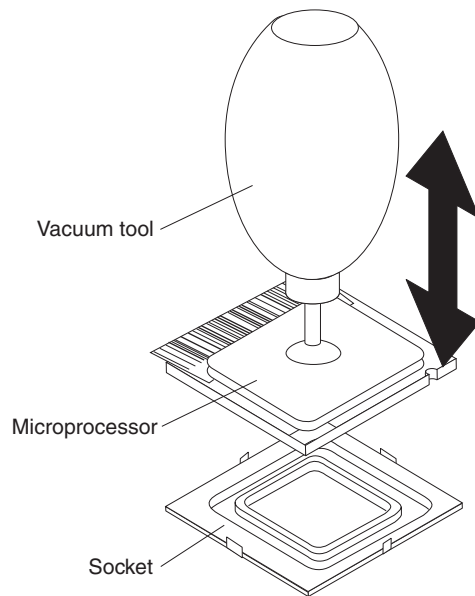

Figure 55. Installing the microprocessor
- a. Squeeze and hold the bladder of the vacuum tool; then, place the suction cup on the microprocessor and release the bladder (see Figure 55).